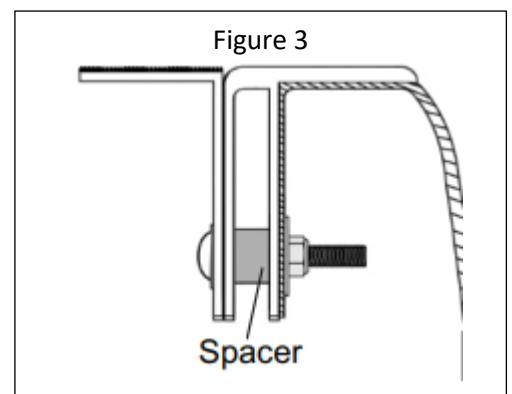

Figure 3
- c. The spacers fill the gap behind the rail. *See Figure 3*